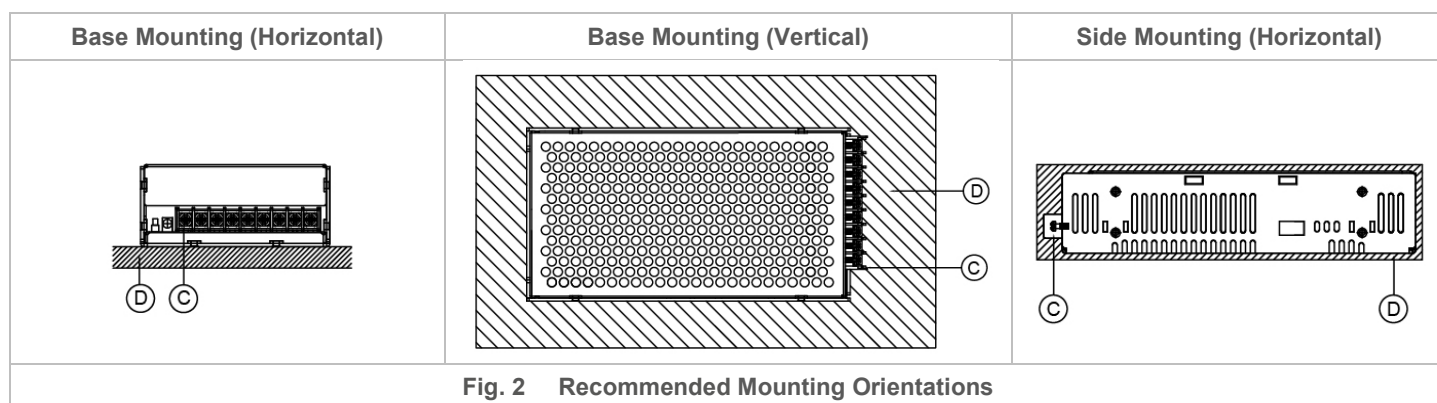

Fig. 2 Recommended Mounting Orientations
- Ⓐ Side Mounting: Fig. 2 and Fig. 3 show the mounting hole locations for power supply assembly onto a metal mounting surface. The power supply shall be mounted on minimum of 4 mounting holes using M4 screw of maximum 5 mm (0.20 inch) length (Refer to Fig. 4). This is to maintain a safety distance between the screw and internal components.
- Ⓑ Base Mounting: Fig. 2 and Fig. 3 show the mounting hole locations for power supply assembly onto a metal mounting surface. The power supply shall be mounted on minimum of 4 mounting holes using M4 screw of maximum 4 mm (0.16 inch) length (Refer to Fig. 4). This is to maintain a safety distance between the screw and internal components.